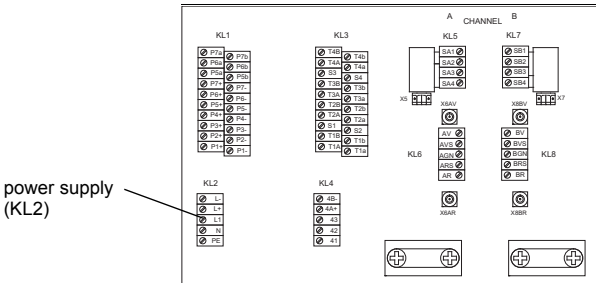

Fig. 6.10: Connection of the power supply
- Connect the leads to the terminals of the power supply (see Fig. 6.10 and Table 6.9).